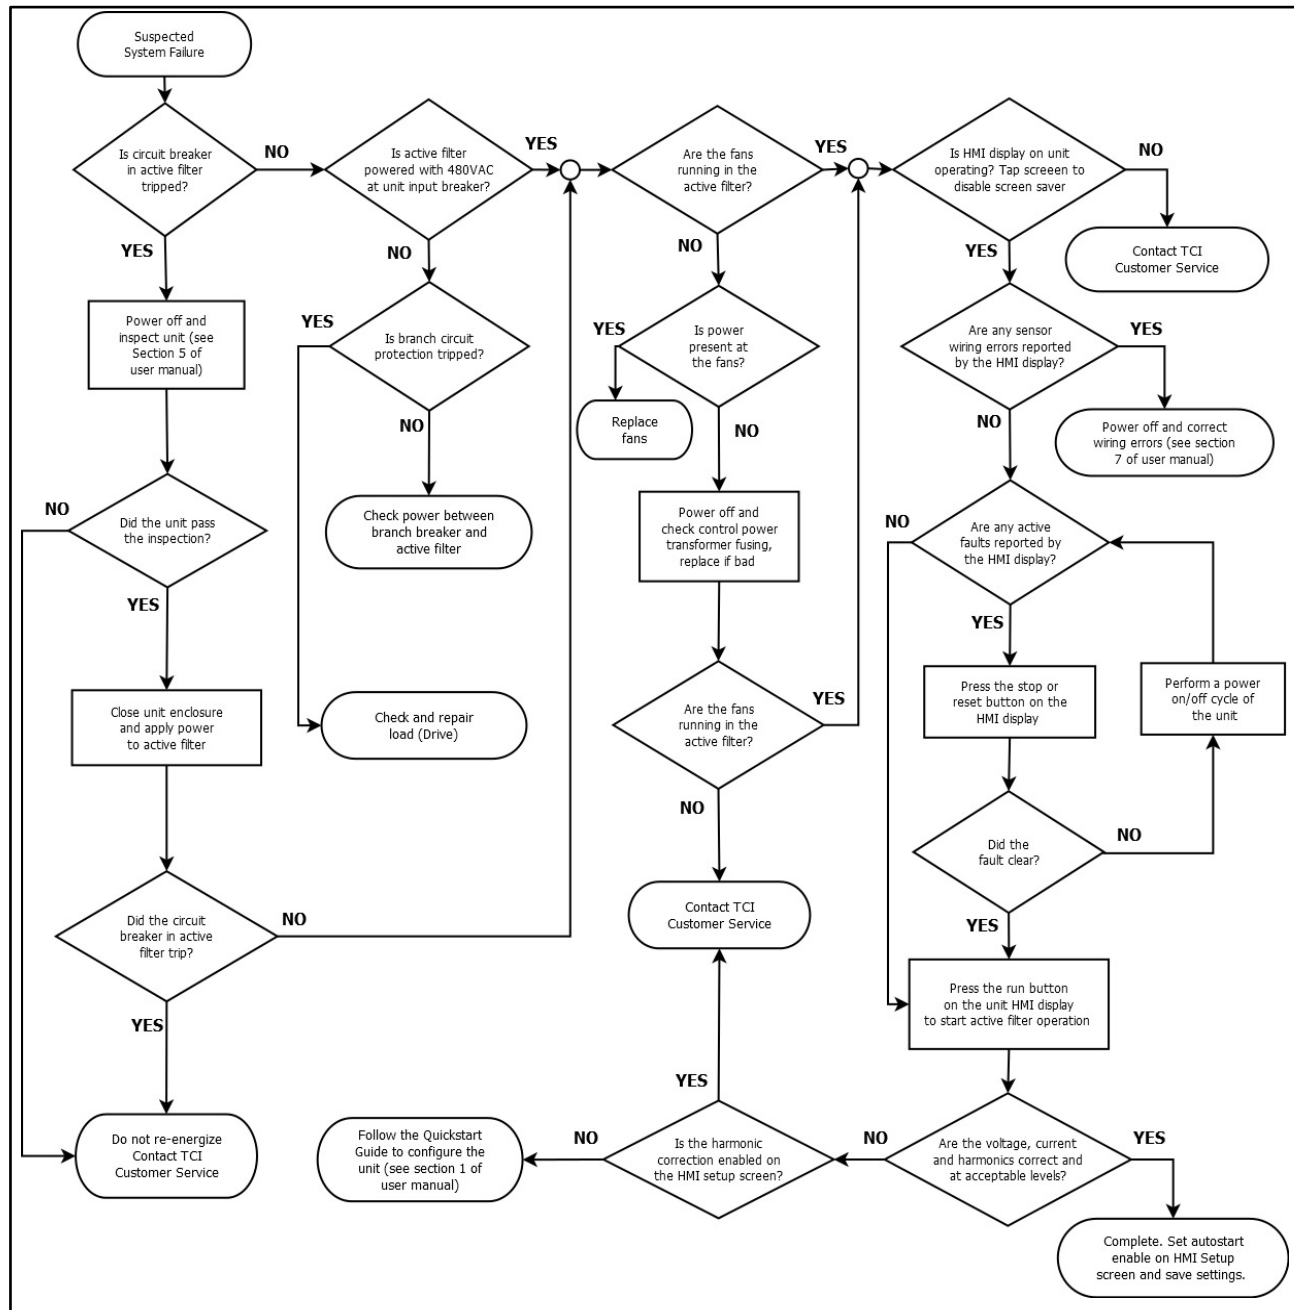

Figure 20: HGA System Troubleshooting Flowchart
- Measure resistance of power semiconductors using a multi-meter set on the diode check setting, see Figure 20 for semiconductors locations. Look for opens, ∞ , or dead short readings. With the red lead of your meter connected to the far-right negative terminal of the capacitor bank, measure with the black lead of the meter to each of the three output terminals (bus bars), the reading should be approximately 0.35Ω . Reverse the meter leads and repeat measuring to each terminal. This time a low reading will be present, which will continue to increase; this is an indication of a capacitor charging. Next, connect the black meter lead to the "positive capacitor terminal" and again measure to each of the output terminals with the other lead; the reading should be approximately 0.35Ω . Reverse the meter leads and repeat measuring to each terminal. Again, it will be a low reading, which will continue to increase. If the readings are as described, it is likely the power semiconductors are good. If any readings are open or dead shorts, it will be an indication that something is bad in the power section. Do not reapply power if you are not sure the IGBTs are good.